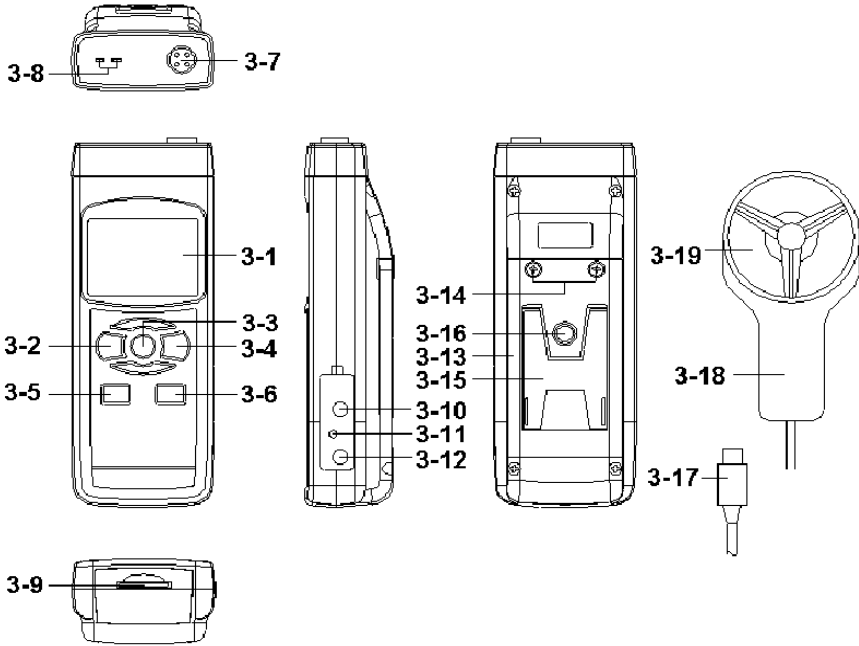

Fig. 1
(3-2, Fig. 1) momentarily.
** Pressing the " Power Button " (3-2, Fig. 1)
Pressing the " Function Button " (3-3, Fig. 1)
just release the " Function Button " (3-3, Fig. 1), the
- b. Plug the " Probe Plug " (3-17, Fig. 1) into the " Probe Input Socket " (3-7, Fig. 1).
Power on the meter by pressing the " Power Button " (3-2, Fig. 1) once,
- c. Hold the " Probe Handle " (3-18, Fig. 1) by hand and let the " Probe Head " (3-19, Fig. 1) face against the measuring air flow source, then the Display (3-1, Fig. 1) will show air velocity directly. At the same time, the lower Display will show the air temperature value.
- b. Not install the " Probe Plug " (3-17, Fig. 1) into the " Probe Input Socket " (3-7, Fig. 1)
- c. Plug the Thermocouple Temp. Probe (Type K Temp. probe pr Type J Temp. probe, optional) into " Type K/J Probe Input Socket " (3-8, Fig. 1)
During the measurement, press the " Hold Button " (3-3, Fig. 1) once will hold the measured value & the LCD will display a " HOLD " symbol.
- 1) The data record function records the maximum and minimum readings. Press the " REC Button " (3-4, Fig. 1) once to start the Data Record function and there will be a " REC. " symbol on the display.
- a) Press the " REC Button " (3-4, Fig. 1) once, the " REC. MAX. " symbol along with the maximum value will appear on the display.
If intend to delete the maximum value, just press the " Hold Button " (3-3, Fig. 1) once, then the display will show the " REC. " symbol only & execute the memory function continuously.
- b) Press the " REC Button " (3-4, Fig. 1) again, the " REC. MIN. " symbol along with the minimum value will appear on the display.
If intend to delete the minimum value, just press the " Hold Button " (3-3, Fig. 1) once, then the display will show the " REC. " symbol only & execute the memory function continuously.
After power ON, the " LCD Backlight " will light automatically. During the measurement, press the " Backlight Button " (3-2, Fig. 1) once will turn OFF the " LCD Backlight " .
Prepare a " SD memory card " (1 G to 16 G, optional), insert the SD card into the " SD card socket " (3-9, Fig. 1). The front panel of the SD card should face against the the down case.
Press the " REC Button (3-4, Fig. 1) once , the LCD will show the text " REC ", then press the " Logger Button " (3-6, Fig. 1), the " REC " will flashing, at the same time the measuring data along the time information will be saved into the memory circuit.
During execute the Datalogger function , if press the " Logger Button " (3-6, Fig. 1) once will pause the Datalogger function (stop to save the measuring data into the memory circuit temporarily). In the same time the text of " REC " will stop flashing.
If press the " Logger Button " (3-6, Fig. 1) once again will execute the Datalogger again, the text of " REC " will flashing .
During pause the Datalogger, press the " REC Button " (3-4, Fig. 1) continuously at least two seconds, the " REC " indication will be disappeared and finish the Datalogger.
Press the " REC Button (3-4, Fig. 1) once , the LCD will show the text " REC ", then press the " Logger Button " (3-6, Fig. 1) once, the " REC " will flashing once and Beeper will sound once, at the same time the measuring data along the time information will be saved into the memory circuit. The lower Display will show the Position (Location) no. and saved into the SD card too.